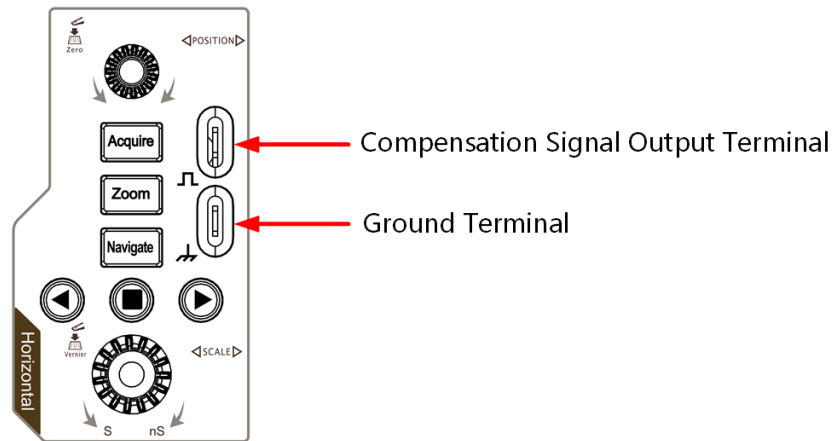

Figure 4.12 Use the Compensation Signal
2. Connect the ground alligator clip of the probe to the "Ground Terminal" as shown in *Figure 4.12*.
3. Use the probe to connect the input terminal of CH1 and the "Compensation Signal Output Terminal" of the probe, as shown in *Figure 4.12*.